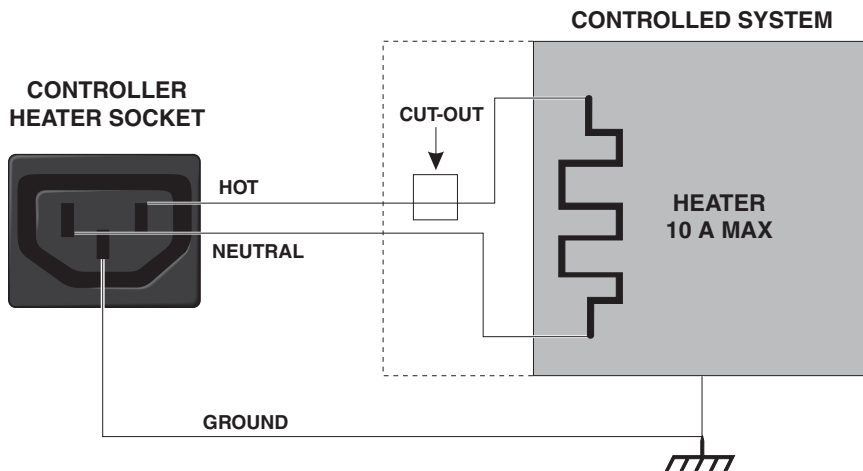

Figure 1 Controller to Heater Wiring
Connect the heater to the back of the controller using the socket labeled “HEATER”. Be sure the heater cable is adequate for the amount of current required and that the heater is wired correctly and safely. See Figure 1 on page 13 for heater wiring.
(2) The heater socket is the source of controlled power for the system heater. This power is switched by the solid-state relay to maintain a constant temperature. The voltage is the same as that supplied through the entry module (A). For a diagram of how to wire the heater to the controller see Figure 1 on page 13. An extra line cord has been included with the unit for use with the heater socket.